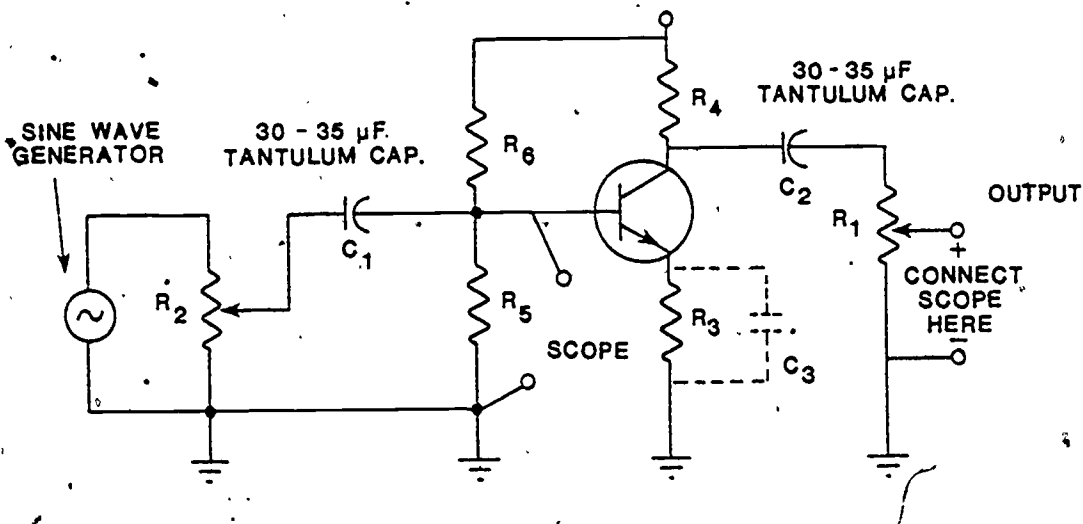

Figure 28. NPN Transistor Circuit.
1. Construct the diagram shown in Figure 28 on a breadboard.
10. Connect the oscilloscope to output, as shown in Figure 28.
11. Using the triggered oscilloscope, measure the P-P waveform voltage and record the result in Data Table 1(B). (Make certain the scope is properly calibrated before using.) Plot the waveform on graph-1(B) below Data Table 1(B).
13. Enter P-P waveform voltages in Data Table 1(A) and the output waveform on graph 1(A).